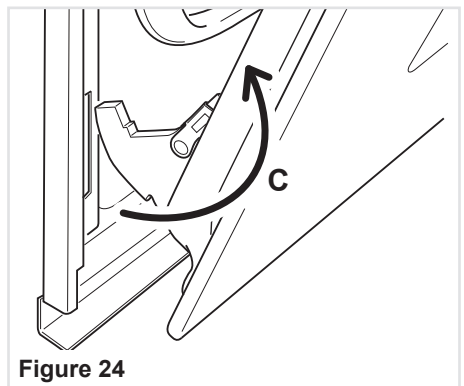

Figure 24
- Withdraw the hinge hooks from their location following arrow "C" (fig. 24).